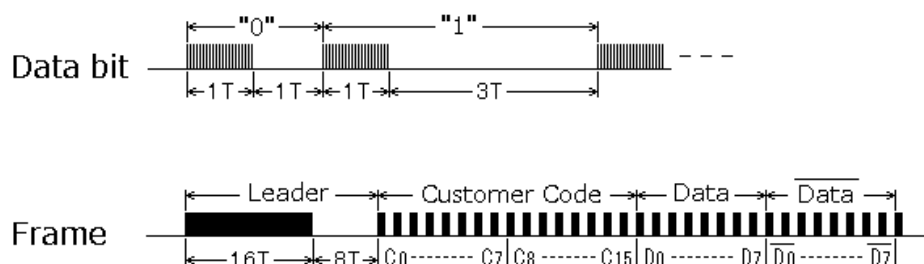

Figure 4.24.3.1 Signal Waveform in NEC Format
1. The following, for example, shows the outline of the NEC format specifications and Figure 4.24.3.1 shows the signal waveforms.